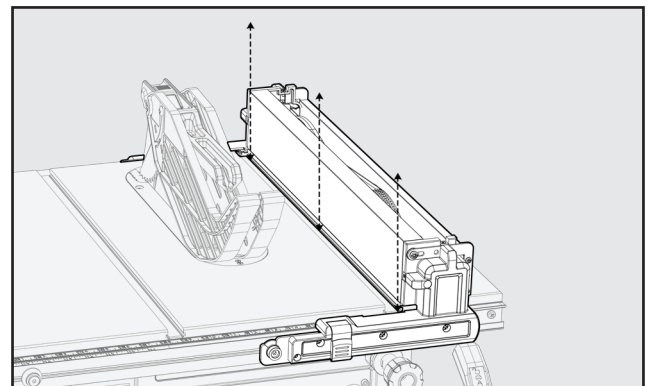

Figure 47
5. Move the extension tabs (with the fence attached) so that the inside face of the fence is flush with the edge of the miter slot (that was measured in Step 1). See Figure 47.